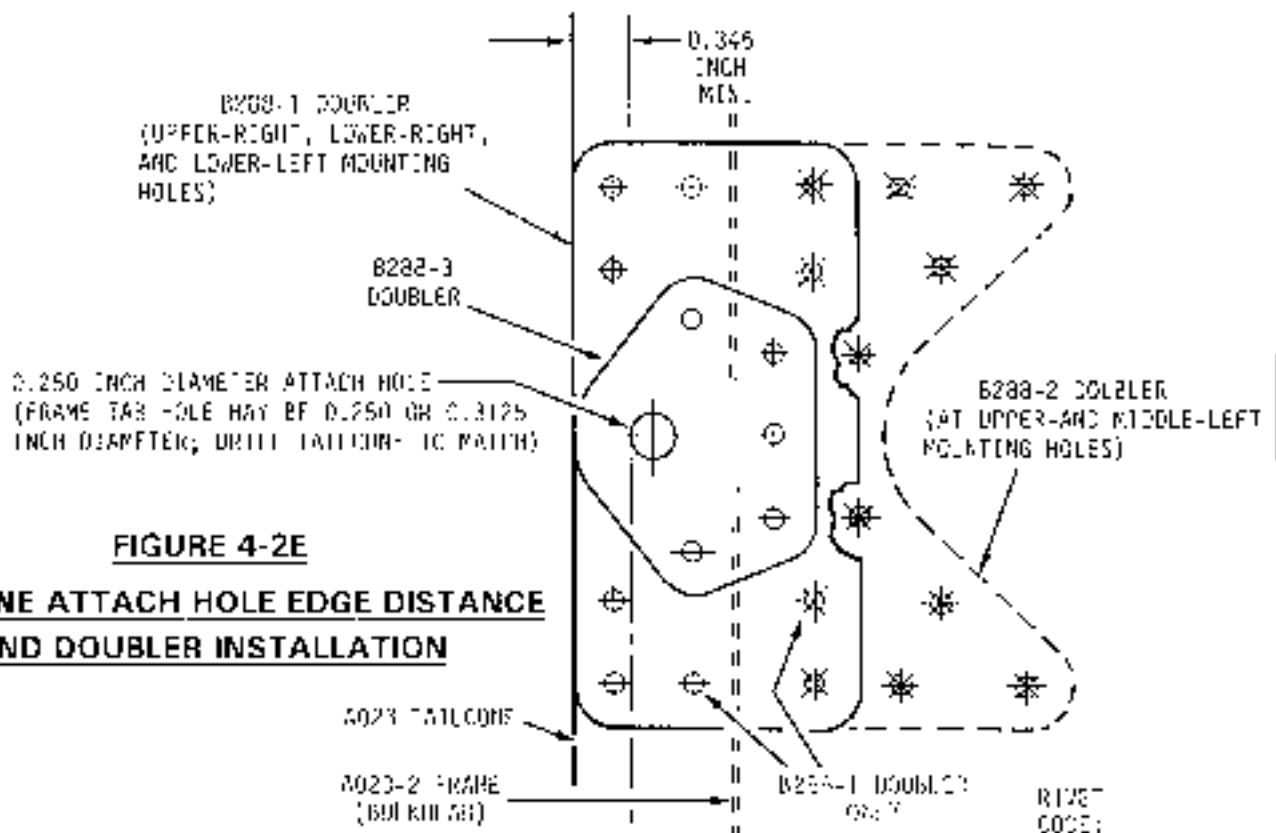

FIGURE 4-2E
4. Deburr drilled holes in tailcone. Refer to Figure 4-2E and accompanying "CAUTION" statement. Center B288-1 or -2 doublers over each tailcone mounting hole and flush with tailcone forward edge. Mark doublers from inside tailcone for drilling 0.250 inch diameter hole.
5. Refer to Figure 4-2E. Drill B288-1 or -2 doubler with a 0.250 inch diameter twist drill at spot marked in step 4. Deburr hole and secure doubler to tailcone with a NAS1304-3 bolt. Drill through existing pilot holes in doubler with a #30 drill bit and secure with clecos.
6. Refer to Figure 4-2E and its accompanying "CAUTION" statement. Remove NAS1304-3 bolts. Place B288-3 doubler on top of B288-1 or -2 and flush with tailcone forward edge. Mark B288-3 doubler from inside tailcone for drilling 0.250 inch diameter hole. Drill B288-3 doubler with 0.250 inch diameter twist drill and deburr. Install B288-3 doubler atop B288-1 or -2 doubler and secure with NAS1304-3 bolt. Drill through existing pilot holes with a #30 drill bit.